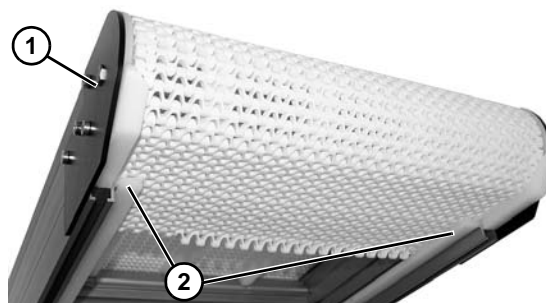

Figure 16
3. Wrap belt around idler tail (Figure 16, item 1).
4. Install belt around lower frame section and above lower wear strips (Figure 16, item 2).